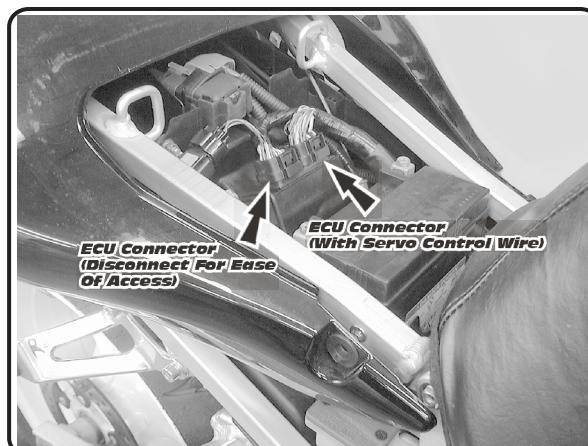

Fig. 4
- 11 With ignition in OFF position, remove rider seat and disconnect engine wire harness connectors from ECU. (See Fig. 4)